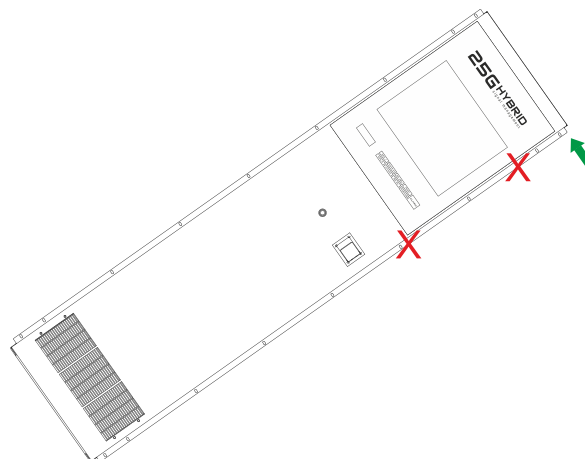

Figure 3-3. Make the device to stand
- Step 5.** Make the device to stand: make sure that two or three people lift at the top and another person fixes at the bottom part avoiding the device to slip (Figure 3-3).